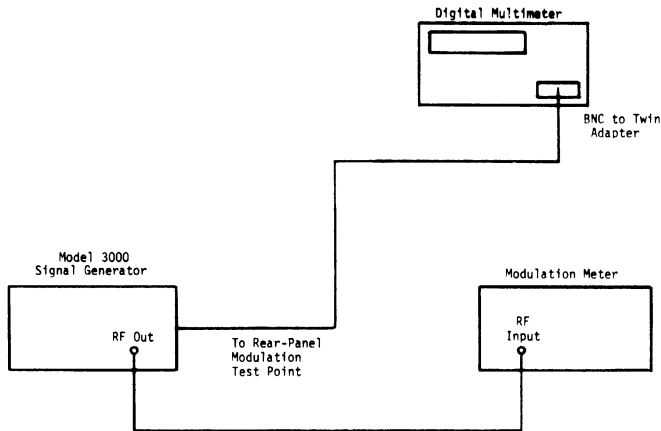

Figure 4-3. Percent AM Accuracy Setup
2. Connect the equipment as shown in Figure 4-3.